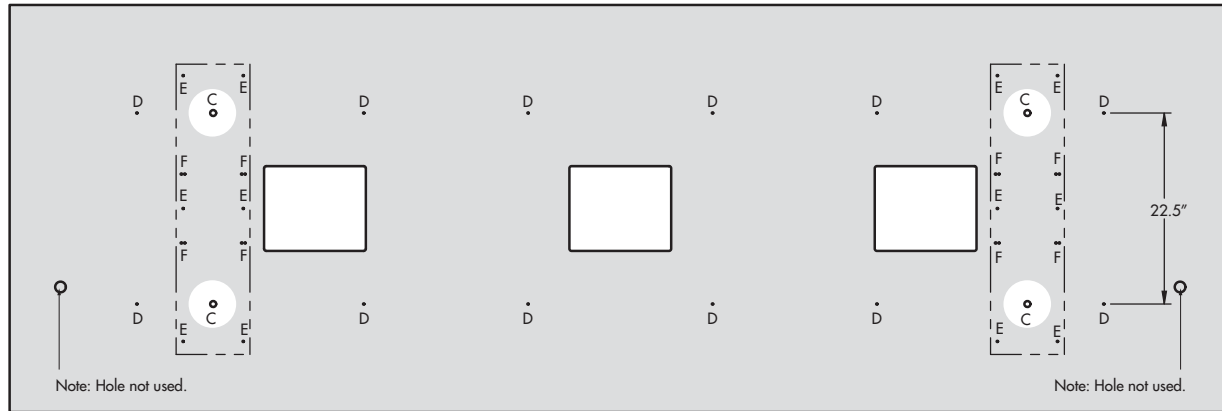

Fig. 1
Check top alignment. Counter bored holes on underside of top fit on to the Pan Head screws (C) used to secure the beams to the bracket castings. See Fig. 1.